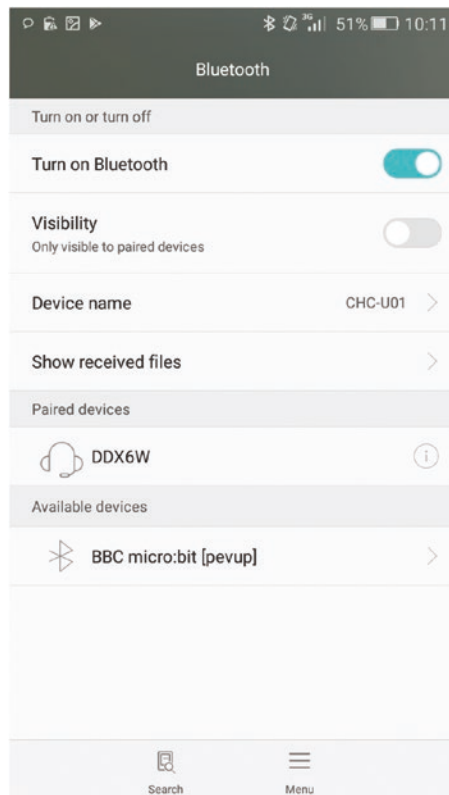

Figure B-21. The micro:bit is under the Available Devices list (image captured from a Huawei CHC-U01 phone)
5. On the Android smartphone, tap the micro:bit named in the Available Devices list (see Figure B-21). This will initiate the pairing process.